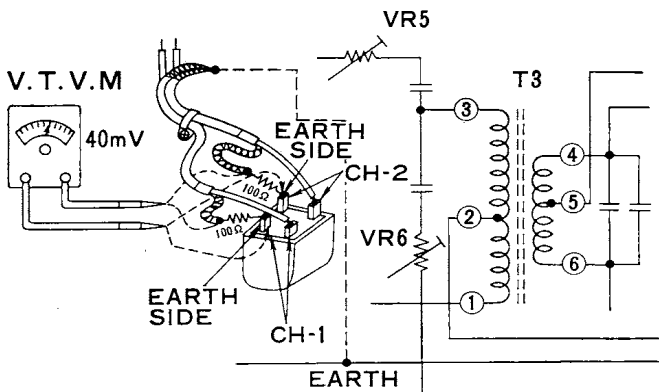

Fig. 14
- c) Measure the voltage after connecting V.T.V.M. (vacuum tube voltmeter) as shown in Fig.14, and adjust the semi-fixed resistors (VR5, VR6) so that the voltage shows the value indicated below.